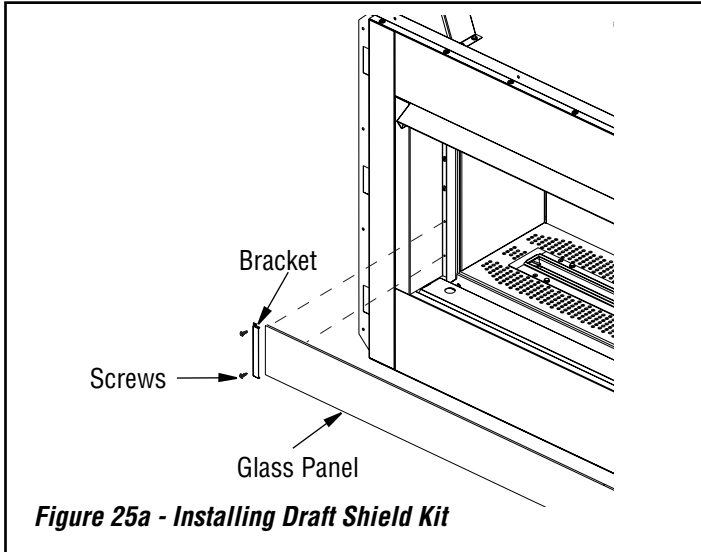

Figure 25a - Installing Draft Shield Kit
The draft shield kit should be installed after the fireplace is completely framed and finished. The brackets are attached to the front side face of the fireplace using two screws as shown in **Figure 25a**. Position the glass panel in the bracket so that it is securely in place. The glass panel can be placed in two different height locations.
3. Remove glass panel if installed (*Figure 25a, Page 14*).